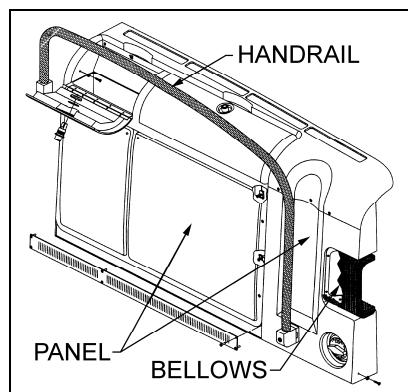

FIGURE 1: LOCATION OF PANELS
1. Open entrance door. Remove handrail attaching parts then handrail. Remove two trim panels and upper hinge rubber bellows (refer to figure 1).